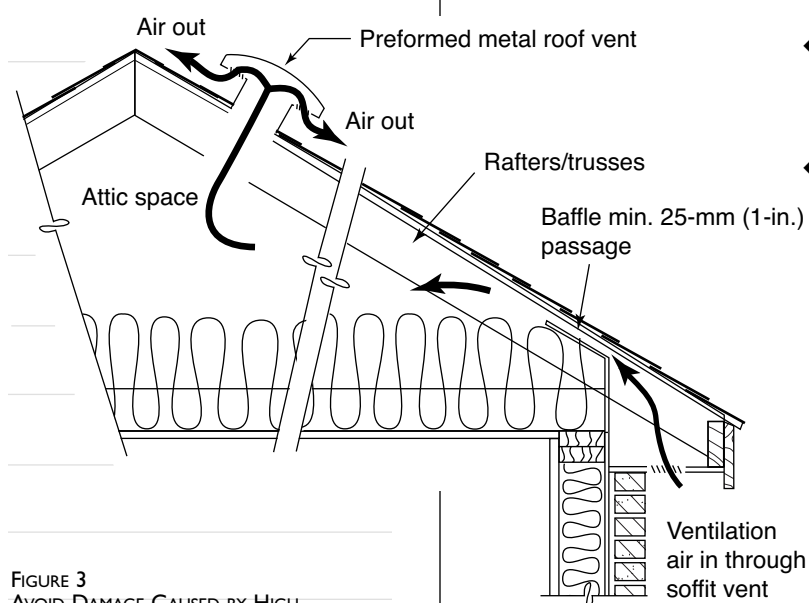

FIGURE 3
- ◆ Ventilate the roof space in accordance with NBC 9.19.1.2 to reduce high temperatures in attic areas (see Figure 3).